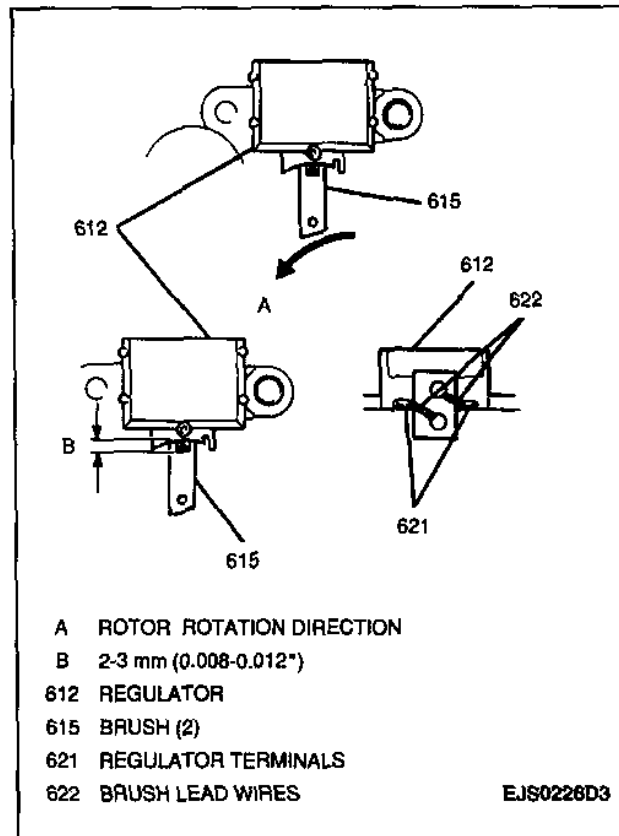

Figure 22—Installing Brushes to Regulator
1. Brushes to regulator (Figure 22).